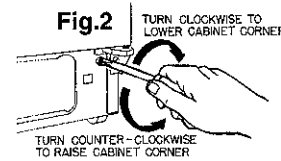

Fig. 2
• Refrigerator models that have adjustable wheels can be leveled by removing the base grille and adjusting the wheels with a screwdriver (see Fig. 2). To lock the cabinet in place, turn down one or both locking feet, located near the front wheels. Rear leveler feet are not required.